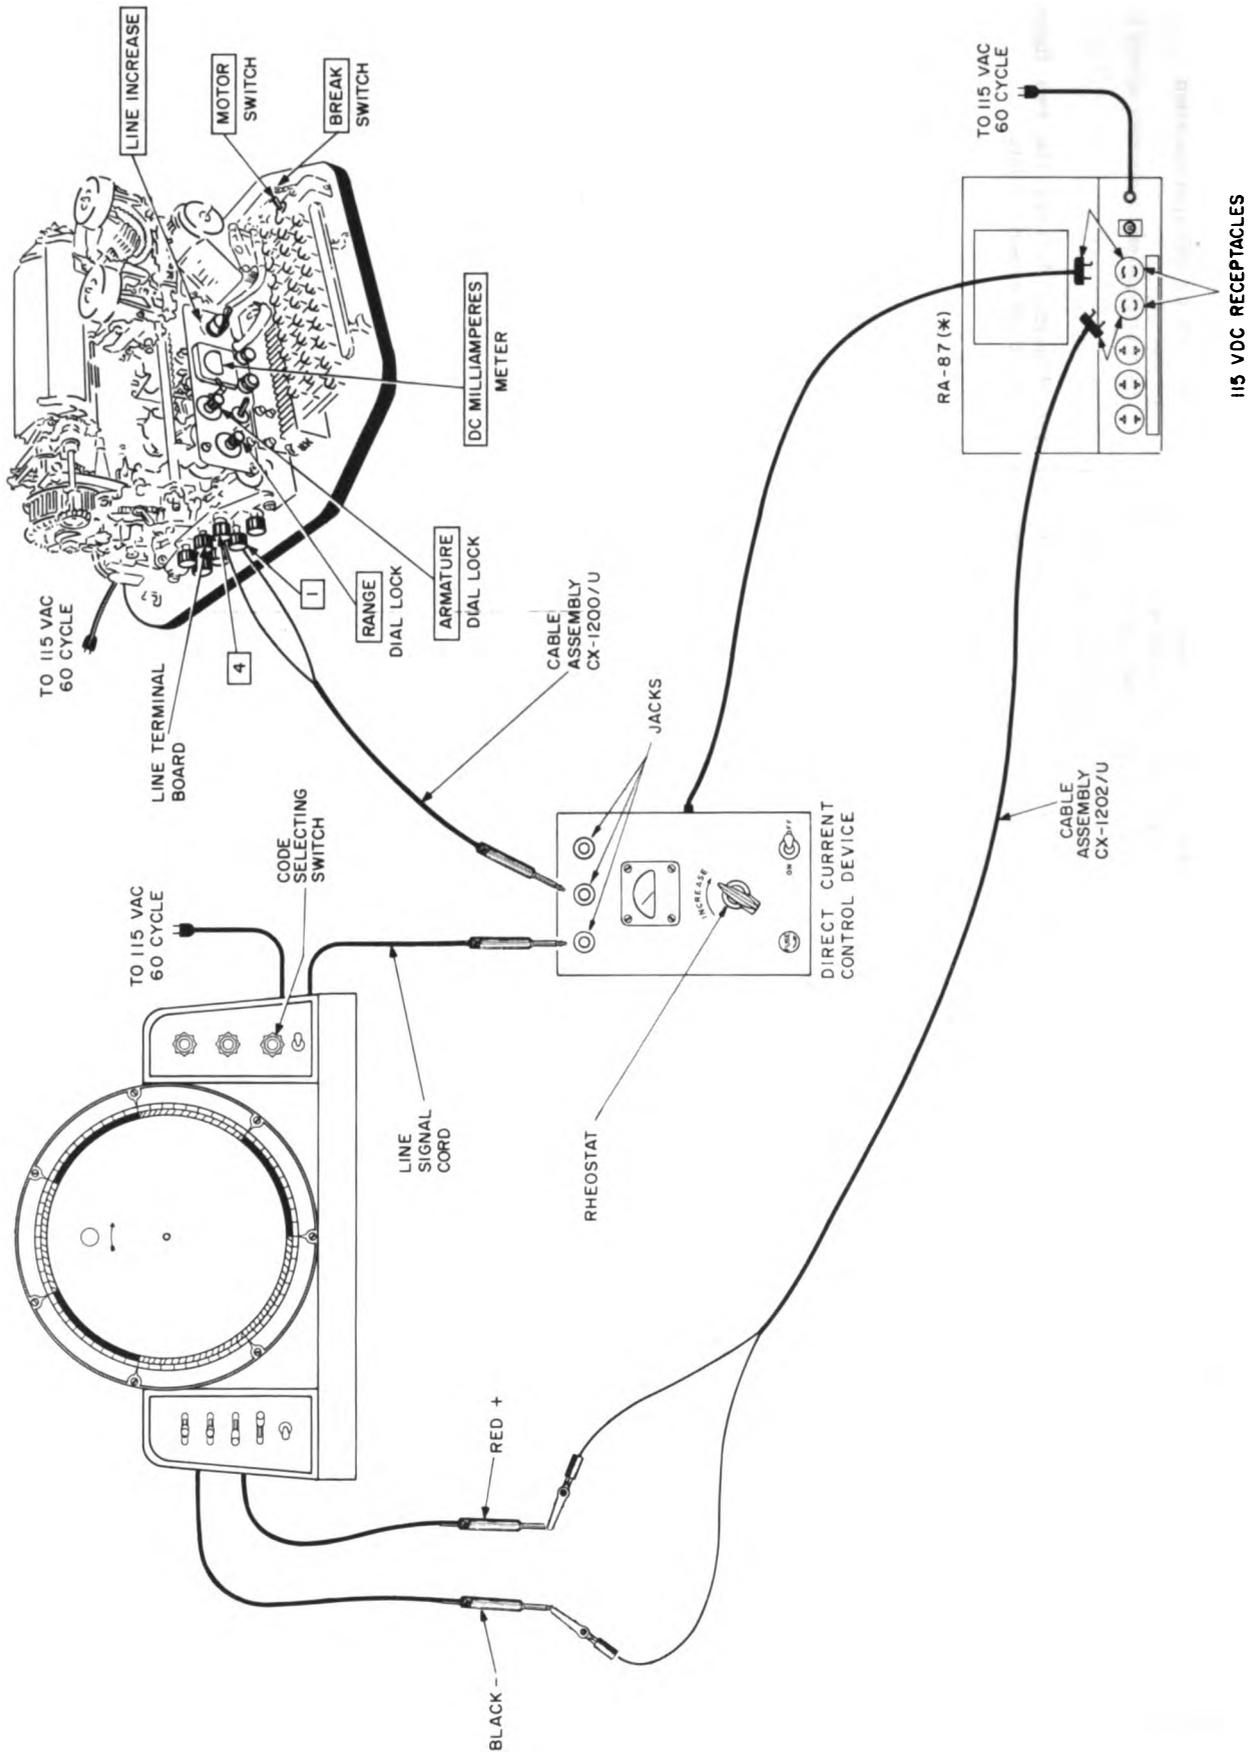

Figure 4-3. Receiving circuit, bias and end distortion tests (high-level teletypewriters only).
b. Test Connections and Conditions. Connect the equipment as shown in figure 4-3.